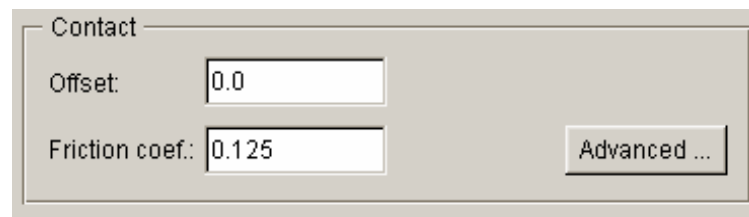

Figure 3.20 Default setting of contact parameters
- Define contact parameters. Use the default value illustrated in Figure 3.20.